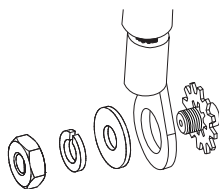

Fig. 8-4, Hardware Stack Up
6. Connect the power supply external ground connection to the rack ground stud  in **Fig. 8-1**. Follow the proper stack up (**Fig. 8-4**) to attach the supplied #10-32 nut, lock washer, flat washer, and supplied ground wire.